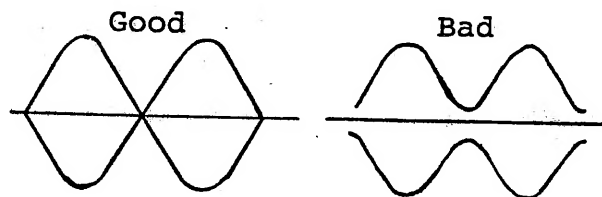

Figure 2
7. Adjust TC4 (CAR1 8.8315 MHz for USB) so that a complete tone waveform is observed, as shown in figure 2. Return to REC, and resolder D124.
9. Set STBY to SEND and adjust TC3 (CAR2 8.375MHz) so that a complete two tone signal is displayed, as in Fig. 2.